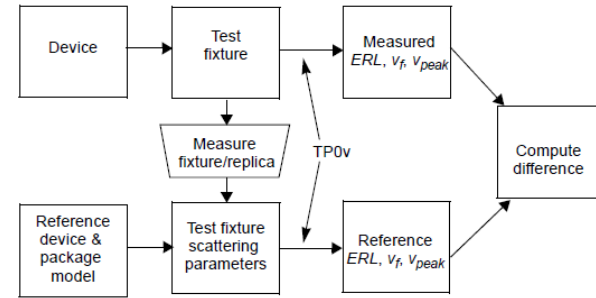

Figure 163A–1—Measurement method for transmitter reference steady-state voltage, pulse peak and ERL
- #2. I support adopt COM parameter, $R_d=55$, in the “reference package & device model” in Figure 163A-1